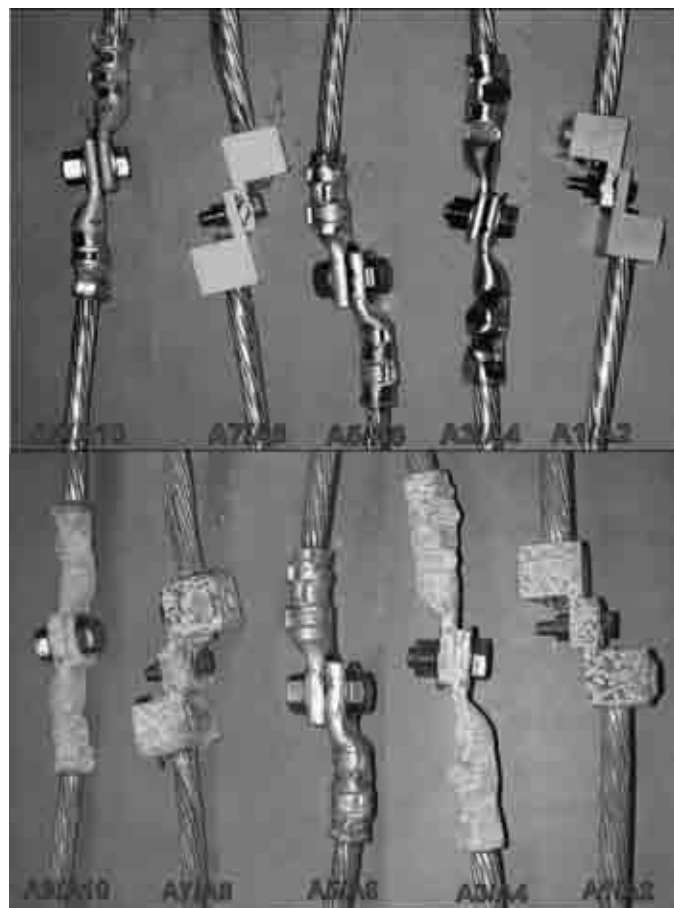

Figure 8. All-aluminum connections before testing (top) and after 2000 hours of environmental testing (bottom).
1) Aluminum Connectors: The aluminum connectors on both the aluminum and copper conductor showed a considerable amount of surface corrosion after testing, and a build-up of white oxidation. On some of the mechanical connectors, the tin plating had flaked off the surface and the underlying aluminum showed signs of corrosion. Photographs of the all-aluminum connectors before and after testing are shown in Fig. 8, and the aluminum connectors on copper conductor are shown in Fig. 9.